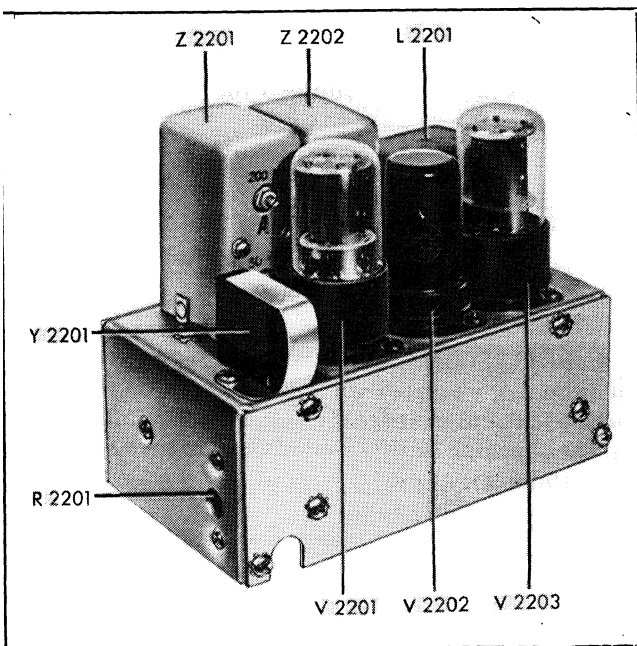

Figure 5-10. MCW-CFI Unit — Top View
(1) Extend the length of wire and twist it to form a "twisted-pair." Leave a loop at the far end of the lead so that the loop can be placed over a tube on the CFI unit.
(2) Place loop of wire over tube V2201 on CFI unit.
(3) Connect the output of a stable local 200 Kc oscillator to the horizontal deflecting plates of the oscilloscope. Local 200 Kc oscillator must have been checked recently against a U.S. Bureau of Standards transmission to insure frequency accuracy.
(4) Turn on oscilloscope.
(5) Insert a small "jeweler's" type screw driver in the slot of inductor Z2201A tuning slug adjustment screw (see fig. 5-10) adjacent to which is stamped number "200." Rotate this screw and observe reading of vacuum tube voltmeter. As 200 Kc crystal oscillator circuit approaches resonance, the meter reading will increase. It will be noted that the tuning is very broad after the meter has reached its peak reading. Final adjustment of the tuning slug position is now made by observing pattern on oscilloscope screen.
(1) Connect a pair of earphones to SIDETONE jack on transmitter.
(2) Insert a small "jeweler's" type screw driver in the slot of inductor Z2201A tuning slug adjustment screw (see fig. 5-10) adjacent to which is stamped the number "200." Rotate the screw and observe the reading of the vacuum tube voltmeter. As the crystal oscillator circuit approaches resonance, the meter reading will increase. It will be noted that the tuning is very "broad" and that tuning slug for inductor Z2201A may be adjusted over a considerable range without appreciably changing the peak reading of the meter. Note the number of turns of the tuning slug that can be made without changing peak meter reading. By continuing to turn the tuning slug half this number of turns after the meter just approaches peak reading, it will be possible to set the tuning slug to the approximate center of the broad resonance peak. This adjustment must be made to set the tuning slug correctly.
(3) The peak reading obtained on the meter in the previous operation indicates maximum crystal activity and proper operation of the crystal oscillator circuit. If a loud squeaking rush noise is heard in the headphones as soon as the crystal oscillator functions, adjust tuning slug (stamped "150") in inductor Z2202A until this noise disappears.
(4) Quiet operation, arrived at by the foregoing checks and adjustments, indicates correct operation and calibration beat signals may be searched for by rotating Control "B."
(5) Tune the h-f oscillator by rotating control "B" until two approximately equal level loud signals are heard.
(6) Compare the zero beat dial settings of the two selected beat points with the calibration table check points to determine if the interval between the points is 100 Kc, (oscillator frequency is doubled on range 1 causing 50 Kc interval of CFI output to be recorded at 100 Kc).
(7) If the interval is correct and the dial readings correspond reasonably (within 25 dial divisions) with the calibration table, tune Z2201B (farthest from crystal) marked "50," tune Z2202B (nearest crystal) marked "50," and tune Z2202A (marked "150") for maximum sidetone output. Recheck tuning in the same order. If interval is less than 100 Kc, see paragraph 6c (10), this section. If interval is greater than 100 Kc, see paragraph 6c(11), this section.
(8) Recheck adjustment of Z2201A (marked "200") to determine the setting which is the midpoint of the range in which the vacuum tube voltmeter reading is a maximum.
(9) Turn the transmitter on and off several times, noting whether the crystal oscillates positively (vacuum tube voltmeter rises to peak reading) as soon as the transmitter is turned on. Detune Z2201A (marked "200") slightly to improve crystal starting if necessary.
(10) If less than a 100 Kc interval is obtained, rotate mixer tank Z2202B adjustment screw clockwise
(1) Remove the transmitter cabinet cover, the autotune cover plate, and the wrap-around section of the right-hand end of the transmitter cabinet.
(2) Remove the snap button from the side of the chassis of the MCW-CFI unit. (See fig. 5-10).
(3) Tune the transmitter into a phantom antenna (Antenna A-58 if available) on 2400 Kc. Load the power amplifier to exactly 100 on the P.A. PLATE meter in the transmitter when using CW transmission.
(4) Place the EMISSION selector switch on the MCW position, and, while holding the TEST switch closed, adjust resistor R2201 until the plate meter reads 190.